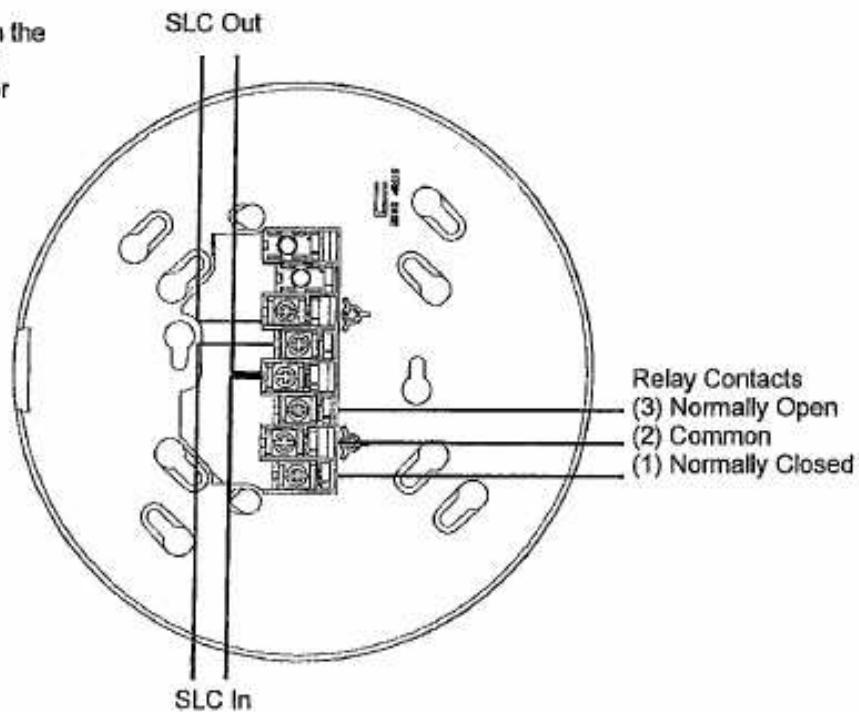

Figure 10.5 Wiring of the EBR Relay Base
- EBR (Eclipse relay base; Figure 10.5)
Figure 10.5 shows typical wiring of the EBR plug-in relay detector base connected to an SLC.